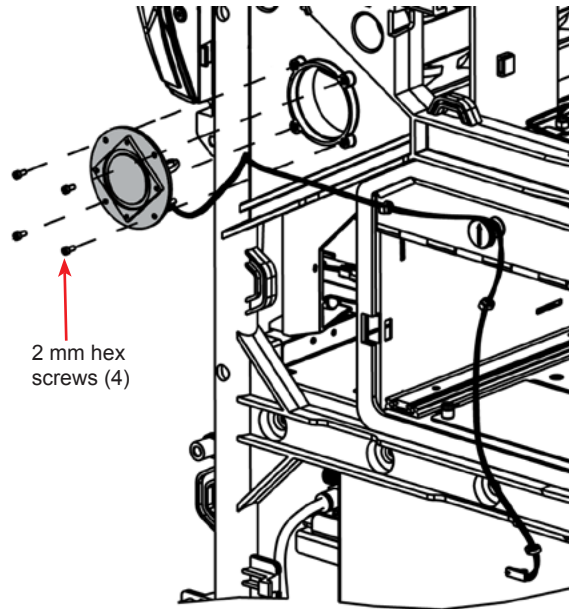

Figure 3-53 Side Speaker Removal
- 44.2 Remove four 2 mm hex screws securing speaker/cable assembly to chassis (see Figure 3-53).